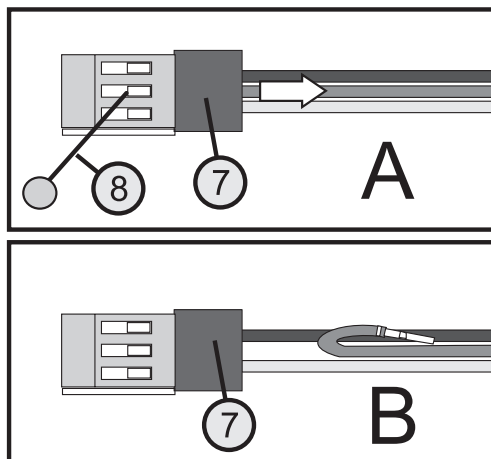

Figure 2
- For this, remove the plug (7) of the 3-pole connection cable from the receiver.
- Use a pin (8) to lift the locking nipple of the middle plug contact and carefully pull the plug from the socket at the cable (see figure 2 A).
- The plug contact now open is folded backwards (see figure 2 B), then isolated with adhesive tape and attached to the 3-pole cable.